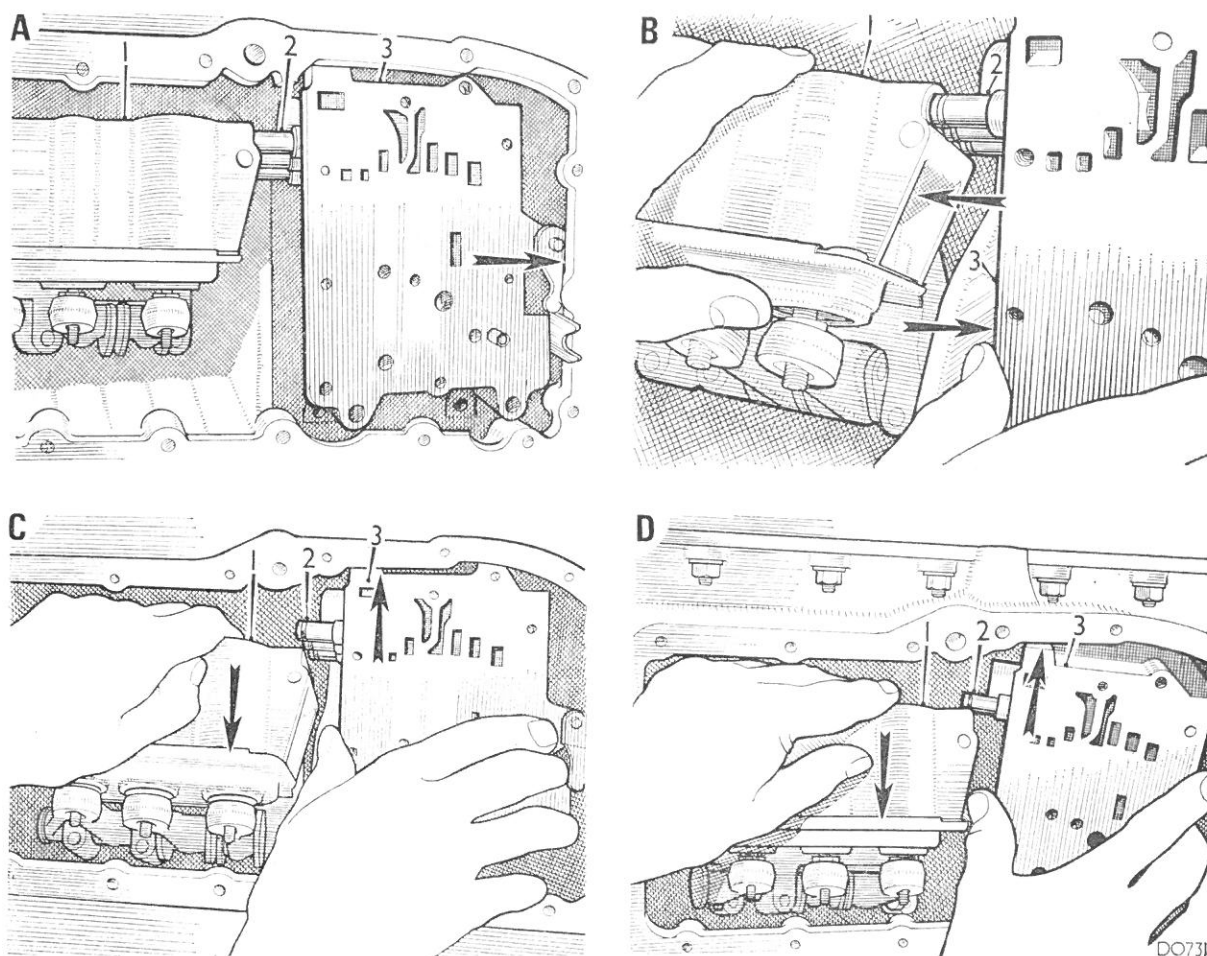

Fig. Fa.29
- (18) Remove the engine/transmission unit from the car (Section Aa.3).
- (19) Remove the converter cover, converter and converter housing as detailed in Section Aa.4, items (3) to (11).
- (20) Carry out items (2) to (4) and remove the front cover.
- (21) Remove all the servo unit securing bolts.
- (22) Remove the bell-crank lever clevis pin. Unscrew and pull out the selector rod.
- (23) Remove the valve block lid and valve chest.
- (24) Remove the pipe chest as shown in the operation sequence in Fig. Fa.29 after pulling it outwards to release it from the bobbins and to disconnect the governor linkage.
- (25) Refer to Fig. Fa.29.
- (26) Remove the lid and valve chest from the pipe chest of the new unit. Refit these as individual components in the reverse order of the removing procedure, noting the following points:
- (27) Fit the three bobbins into their locations in the transmission case.
- (28) Assemble the three pipes into the pipe chest (together with the nylon guide) before refitting the unit to the transmission casing.